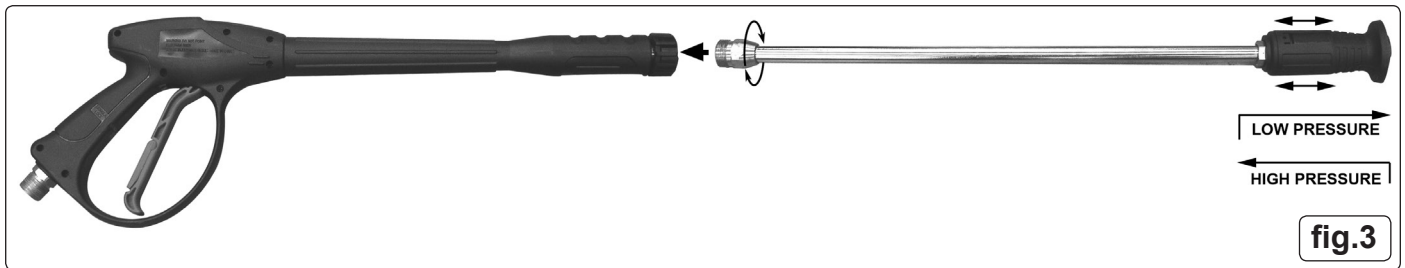

fig.3
- 4.1.3. Screw together the two halves of the lance as shown in fig.3.
- 4.3.1. PRESSURE. To change from high pressure to low pressure the whole nozzle moves backwards and forwards by about 8mm on the end of the lance. Pull the nozzle back towards the handle for high pressure and push it away from the handle for low pressure (see fig.3).